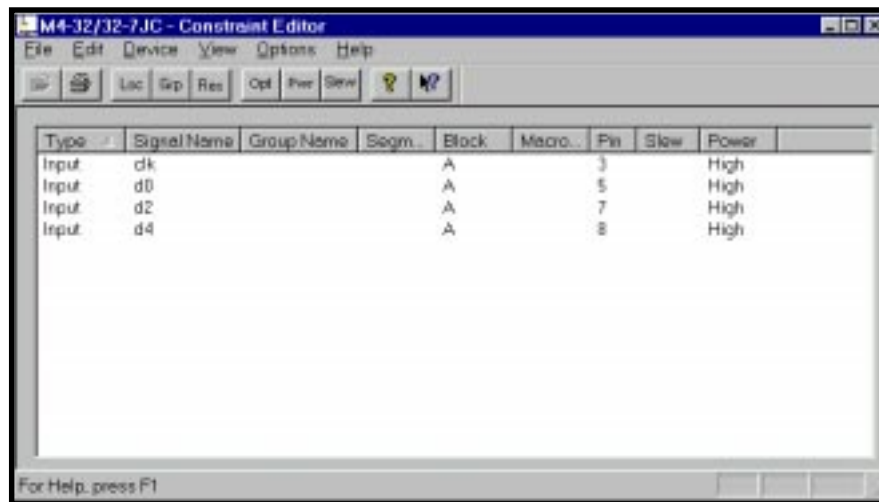

Figure 4-2. Constraint Editor Main Window
2. In the Processes window, double click Constraint Editor. The main window of the Constraint Editor appears (Figure 4-2).